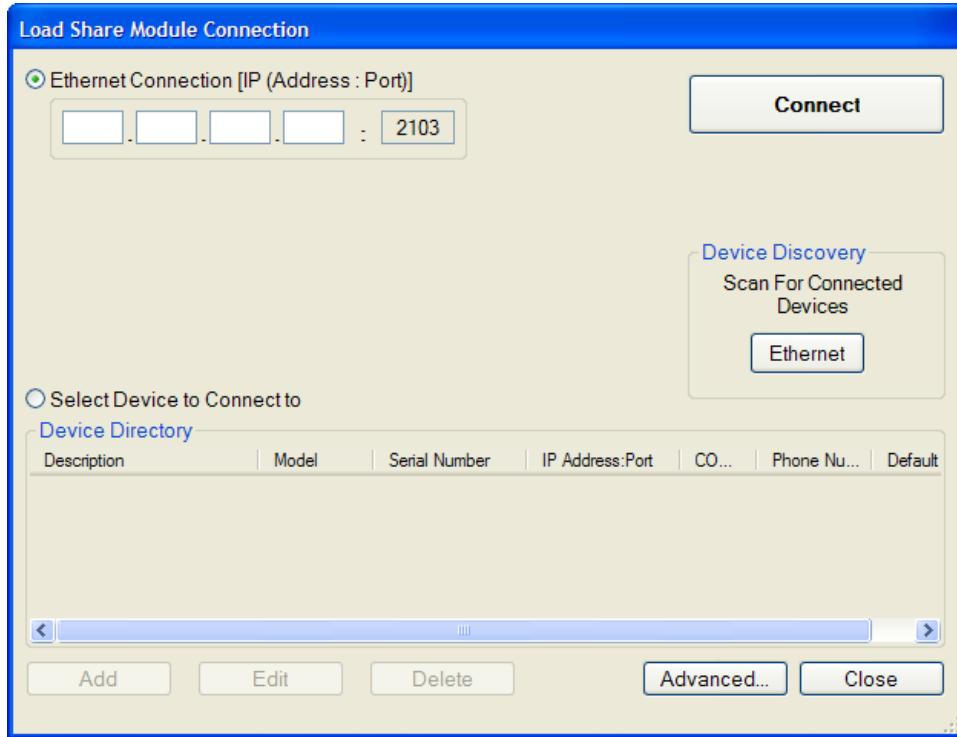

Figure 4-8. Load Share Module Connection Screen
2. In BESTCOMSPlus, click the *Communication* drop-down menu and select *New Connection, Load Share Module*. The *Load Share Module Connection* screen appears. See Figure 4-8.